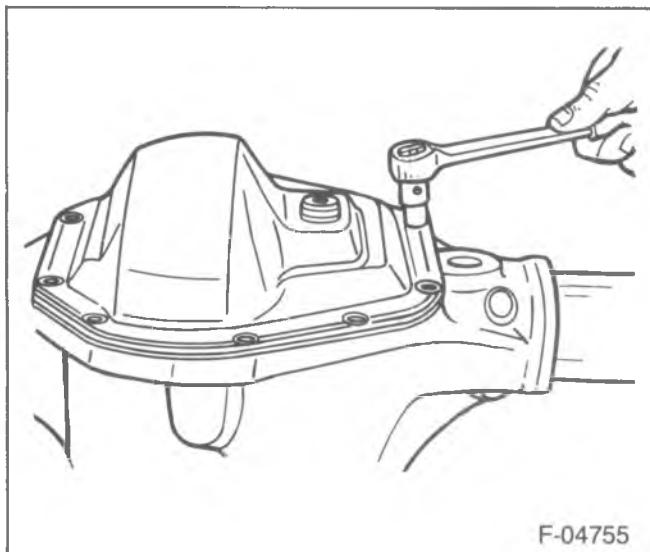

Figure 26—Removing the Axle Cover
- The differential cover bolts (17) and the differential cover (14) (figure 26).
- Axle shafts (38). Refer to the proper service manual.